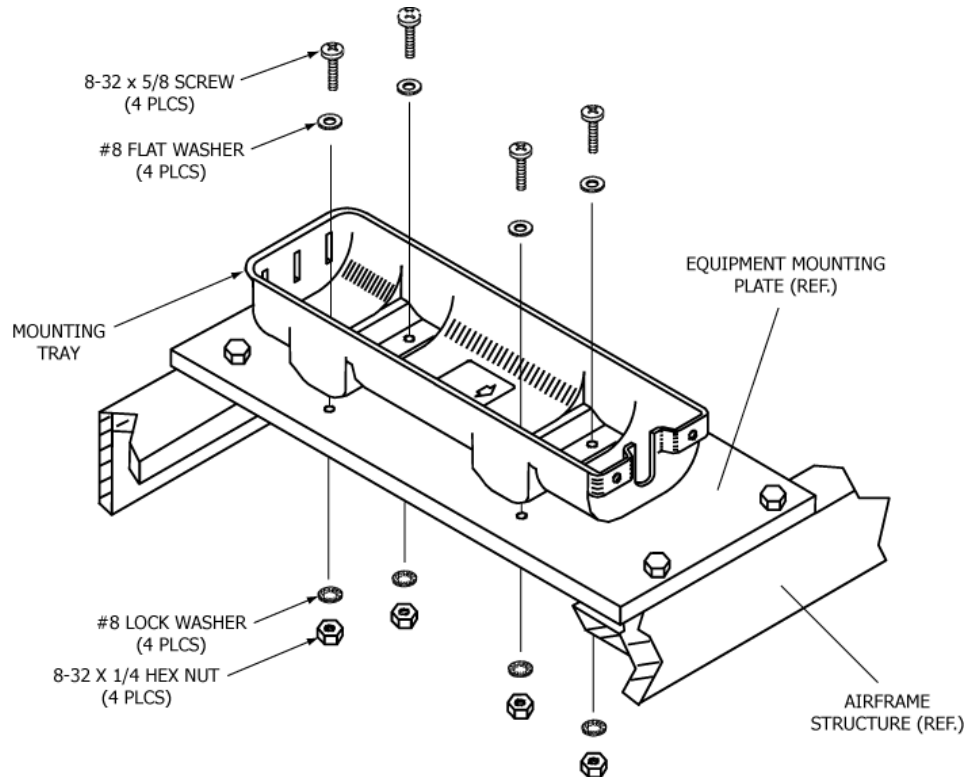

Figure 15 Typical Mounting Tray Installation
- 1) See Figure 15 Typical Mounting Tray Installation.
- 6) Install the mounting tray with the 8-32 x 5/8" SS pan head Philips screws, flat washers, lock washers, and nuts provided in the installation kit (455-7421), as shown in Figure 15 Typical Mounting Tray Installation.